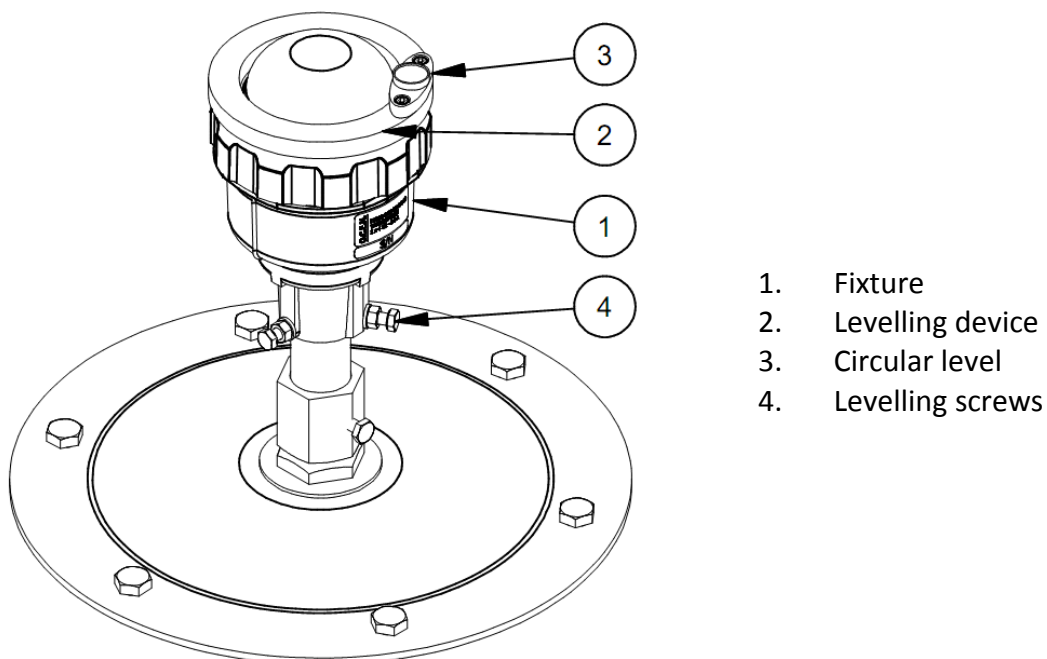

Figure 5 – Levelling Device
- Place on the lens locking ring the levelling device (P/N 332.3500 available on request) as shown in Figure 5. Levelling the light body by operating the three levelling screws until the bubble is centered